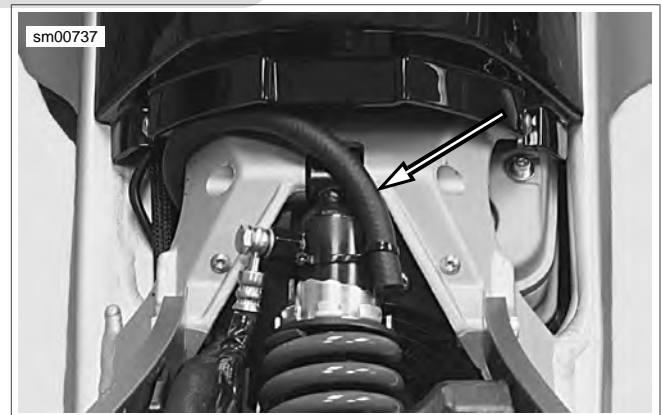
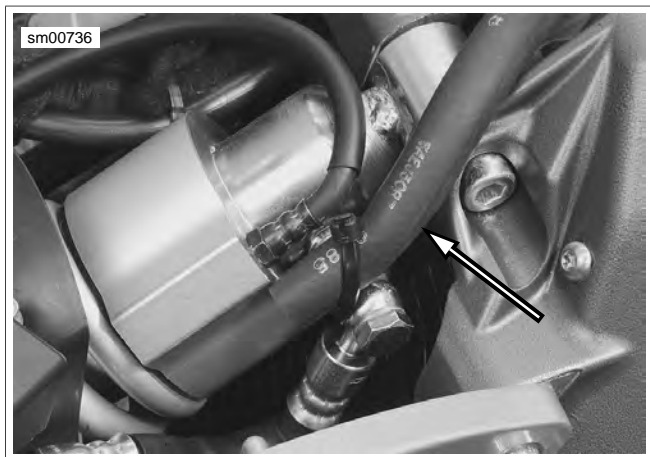

Figure 3-31. Transmission Vent Line: Lightning
Figure 3-32. Transmission Vent Line: Ulysses
- b. See Figure 3-31 (Lightning) or Figure 3-32 (Ulysses). On Lightning and Ulysses models, route transmission vent line up through the left side of frame exiting under the left rear side of the intake cover assembly. Install cable strap to secure transmission vent line in place. Inspect vent line to verify space between vent line and rear exhaust.